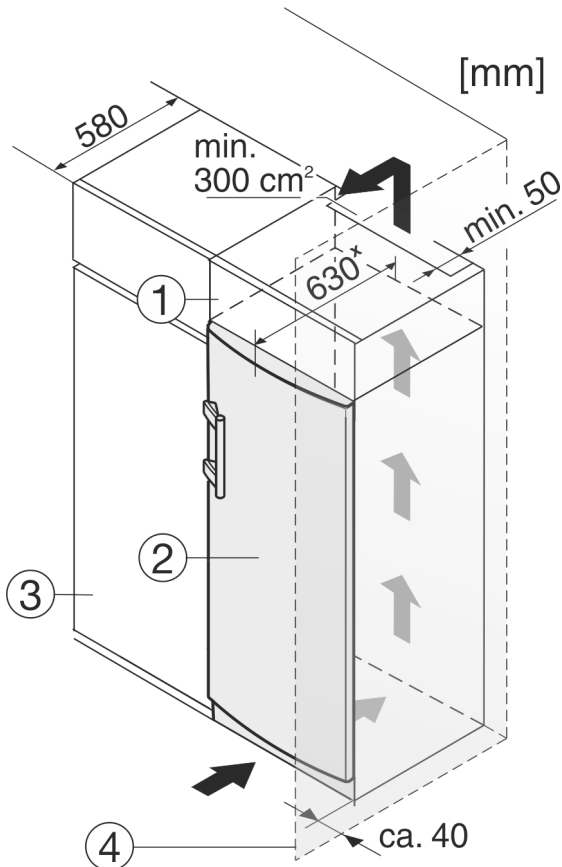

Fig. 10
- (1) Top cupboard (3) Kitchen cabinet
(2) Appliance (4) Wall
The appliance can be built into kitchen units. A top cupboard Fig. 10 (2) can be added above the appliance in order to bring the appliance Fig. 10 (1) up to the height of the fitted kitchen units.
When fitting kitchen cupboards around the appliance (max. depth 580 mm), you can install the appliance directly next to the kitchen cupboard Fig. 10 (3). The appliance protrudes 34 mm * to the side and 50 mm * in the centre of the appliance in relation to the kitchen cupboard front.
If the appliance is set up with the hinges next to a wall Fig. 10 (4), the distance between the appliance and the wall must be at least 40 mm. This is how far the handle protrudes when the door is open.